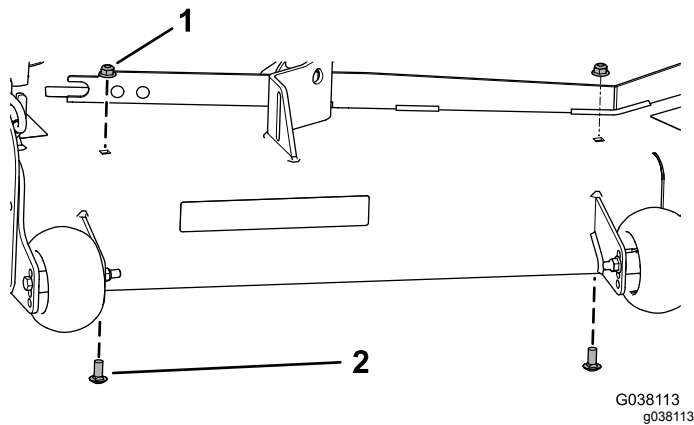

Figure 32
1. Remove the 2 existing flange nuts (3/8 inch) and 2 carriage bolts (3/8 x 7/8 inch) from the mower deck (Figure 32).